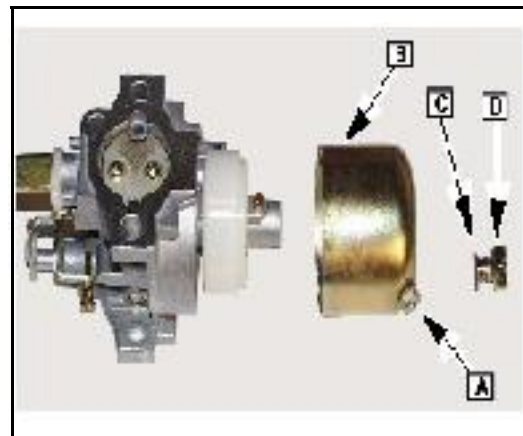

Fig. 49
23. Position bowl drain ([A] Fig. 49) as shown.
24. Install float bowl (B), washer (C), and mounting screw (D), to carburetor.
25. Tighten screw ([D] Fig. 49) securely.